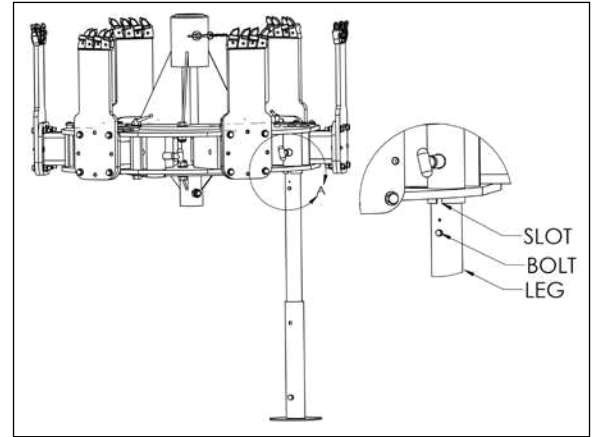

Figure 9. Close Up Of Bolt On Supporting Leg
6. Line up the bolt head with the slot in the leg sleeve, as shown in. See Figure 9.